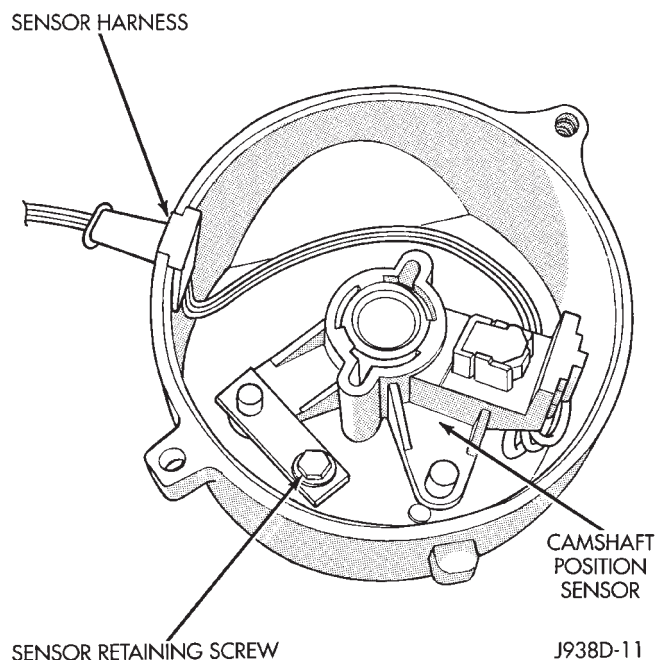

Fig. 3 Camshaft Position Sensor—4.0L Engine
(5) Lightly tap the end of the distributor shaft until distributor gear and thrust washer are removed.
(6) Slide the distributor shaft out of the distributor housing.
(7) Remove the camshaft position sensor mounting bolt and positioning arm (Fig. 3).